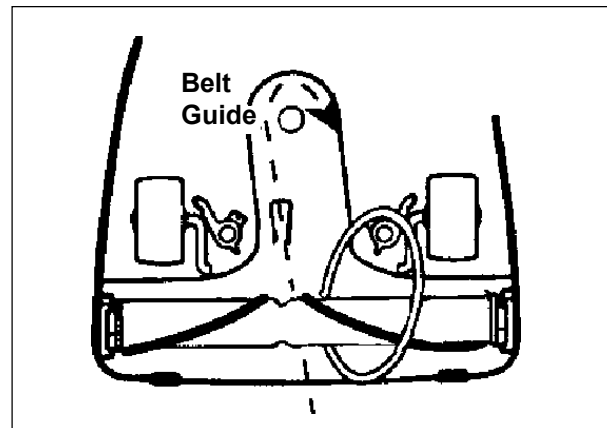

Figure 5
8. Put a new belt around the pulley on the brush. Align the brush roll pulley with the belt guide. See figure 5.